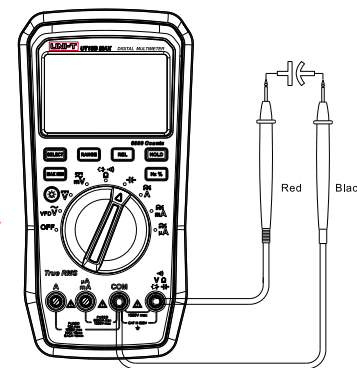

Figure 6
5. Capacitance Measurement (Figure 6)